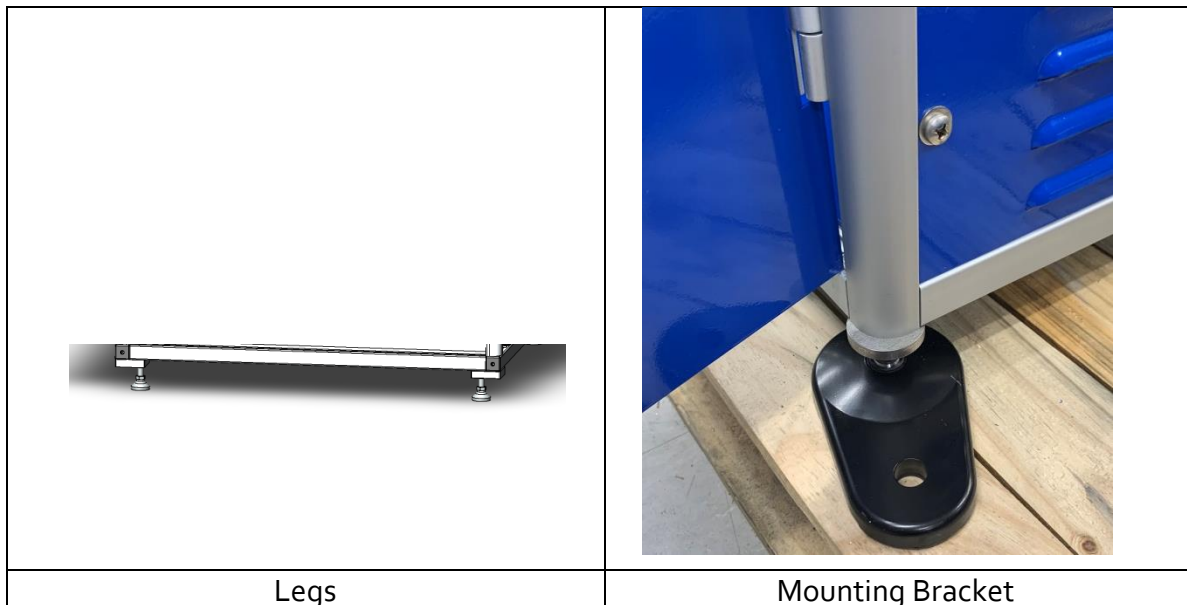

FIGURE 14 : CUBE ADJUSTABLE LEGS AND MOUNTING BRACKETS
3. The CUBE comes with four adjustable legs. The legs can be permanently fixed with optional mounting brackets, see Figure 14.